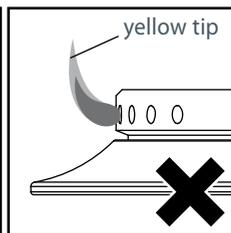

Fig. 4
- Loosen the venturi securing screw. Move the venturi towards the injector until the flame begins to 'yellow tip' (see Fig. 4).